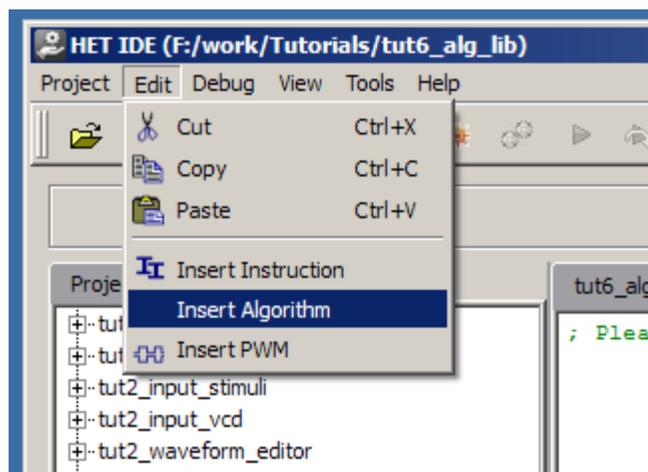

Figure 45. Edit → Insert Algorithm to Open the HET Algorithm Library
- (a) Click Edit → Insert Algorithm (see Figure 45).